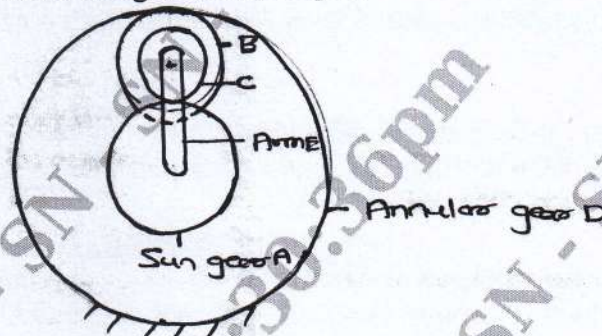

Fig Q6(a)
- 6 a. Fig Q6(a) shows an epicyclic gear train which consists of an annular gear D having internal teeth, a compound gear B-C, the sun gear A and the arm E. The compound gear B-C is known as planet gear as this gear moves around sun gear A. The sun gear A and annular gear D are co-axial. One shaft is connected to sun gear and another shaft is connected to the arm. These two shafts are also co-axial. The sun gear A meshes with compound gear C and annular gear D meshes with compound gear B. The gear A, B and C are having 60, 40 and 25 external teeth respectively. If all the gears have the same module, find the number of teeth on the fixed annular gear D. Also find the speed of the shaft connected to arm, if the speed of the shaft connected to the sun gear A is 100rpm.